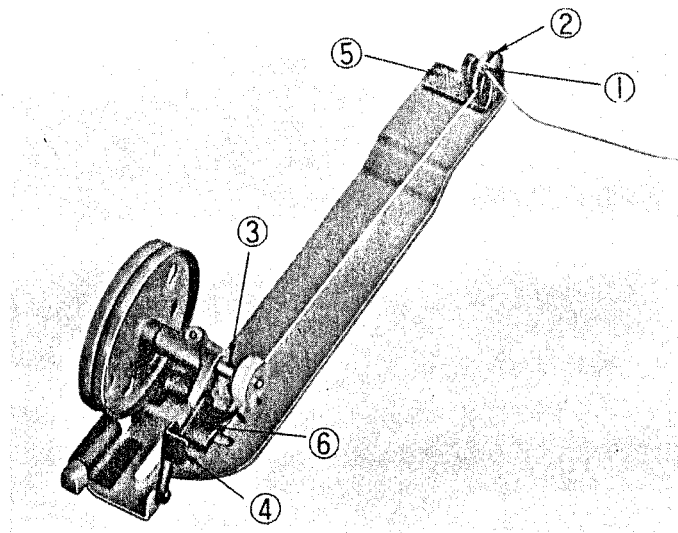

Fig. 5
### **WINDING BOBBINS** (Refer to Fig. 5)
Push the bobbin on bobbin winder spindle (3, Fig. 5) as far as it will go. Pass thread from tension bracket (1), then between and around the back of the tension discs (2) bring thread forward. Then wind the end of the thread around the bobbin several times in the direction shown in the Figure 5. Push the bobbin winder lever (4) downward until wheel contacts the drive belt and start the machine.